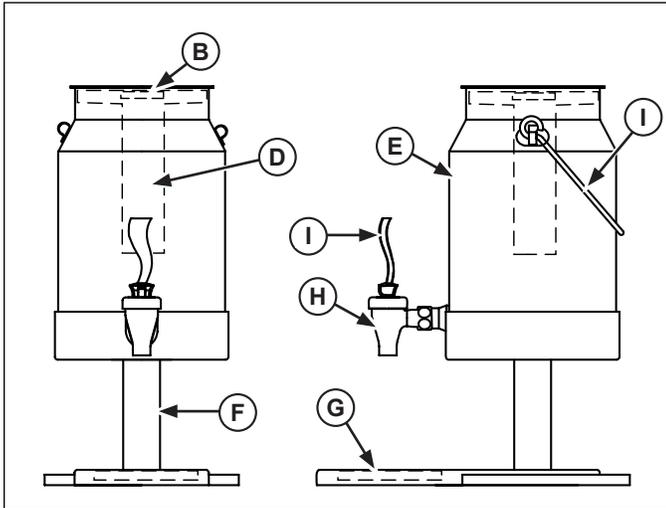

Figure 4. Milk Dispenser Features and Controls.
- (A) COVER HANDLE. Used to open and close the cover.
- (B) COVER. Covers the food/beverage product or ice tube.
- (C) HANDLE. For lifting or carrying the milk beverage body.
- (D) ICE TUBE. Holds ice to keep the beverage products cold.
- (E) BEVERAGE BODY. Holds the beverage product.
- (F) BASE. Supports the beverage dispenser.
- (G) DRIP COVER. Covers the drip trough on the base. Can be removed for cleaning.
- (H) FAUCET. Opening that the beverage flows through.
- (I) FAUCET HANDLE. Controls the flow of beverage.
1. Remove the cover (A) and ice tube (D). See Figure 4 and 5.
2. Place the pre-chilled beverage product into the beverage body (E). Leave room for the ice tube (D).
3. Fill the ice tube (D) with ice and place into the beverage body (E).